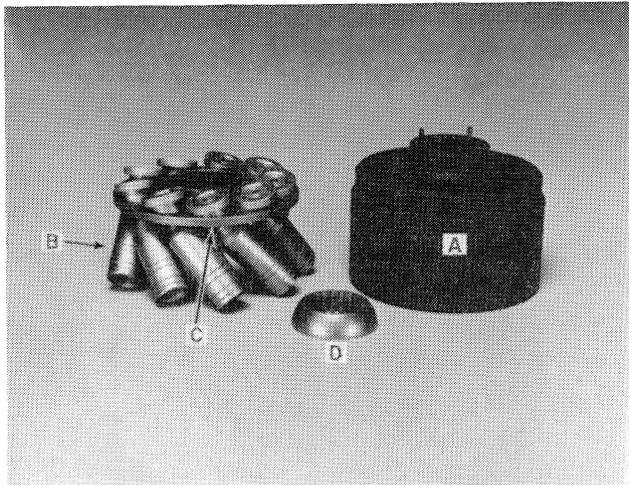

FIGURE 4-7
7. The rotating group parts are shown in Figure 4-7. Lift these parts out of the pump rotating block and carefully lay them on cardboard to avoid damage.